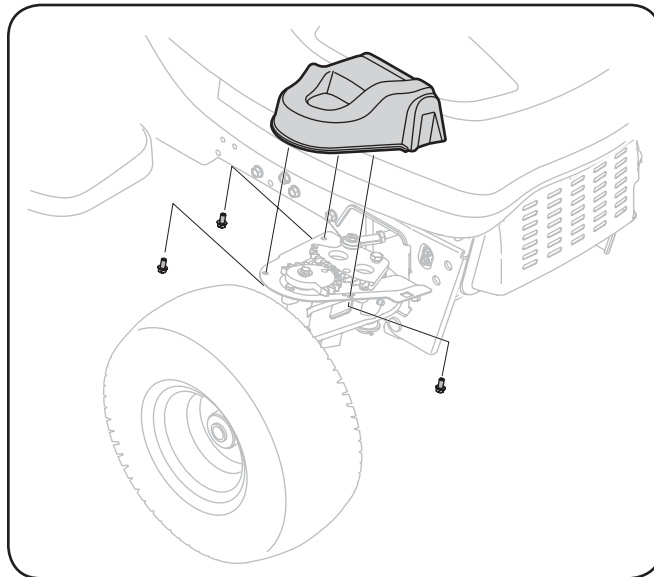

Figure 3-12
1. Install the two new steering mechanism covers as seen in Fig. 3-12 using the 3 screws removed earlier.